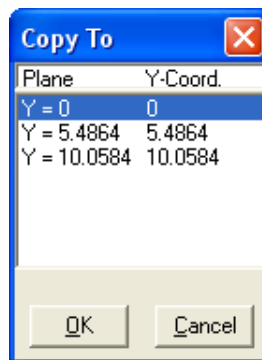

Figure 7-1 Copy To dialog box
- From the **Options** menu, choose **Copy To**. The dialog box of Figure 7-1 appears.